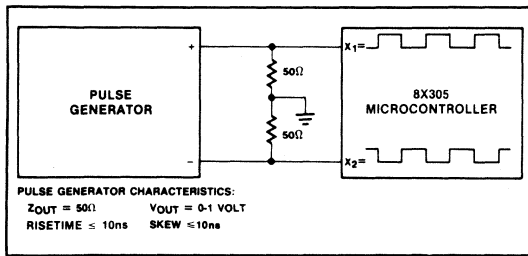
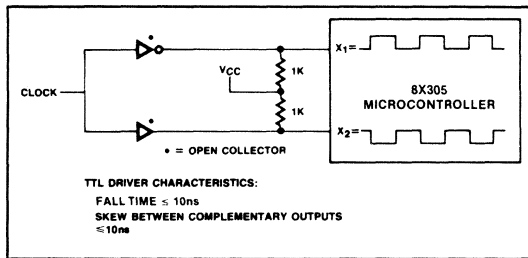

Figure 8. Clocking with a Pulse Generator
Figure 9. Clocking with TTL
**Using an External Clock.** The 8X305 can be synchronized with an external clock by simply connecting appropriate drive circuits to the X1/X2 inputs. Figure 8 shows how the on-chip oscillator can be driven from the complementary outputs of a pulse generator. In applications where the MicroController must be driven from a master clock, the X1/X2 lines can be interfaced to TTL logic as shown in Figure 9.